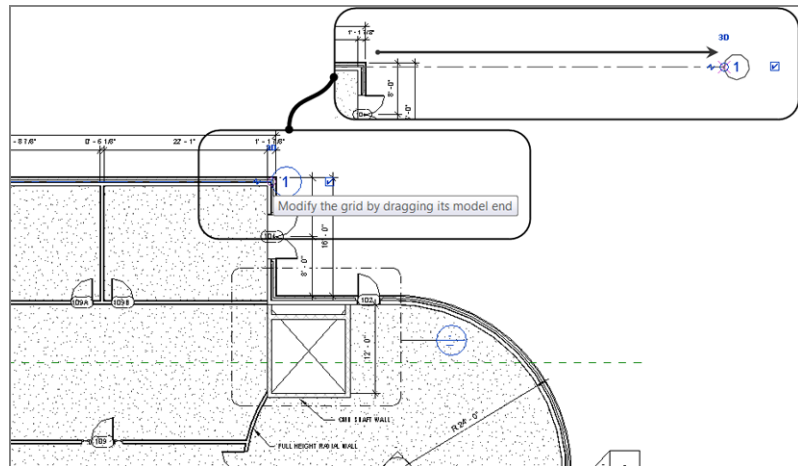

FIGURE 8.3 : Examining the column grid grips
6. The grid bubble needs to be moved. Press Esc twice, or click Modify (to clear the command), and select the grid bubble. Notice the round blue grip similar to that in Figure 8.3.